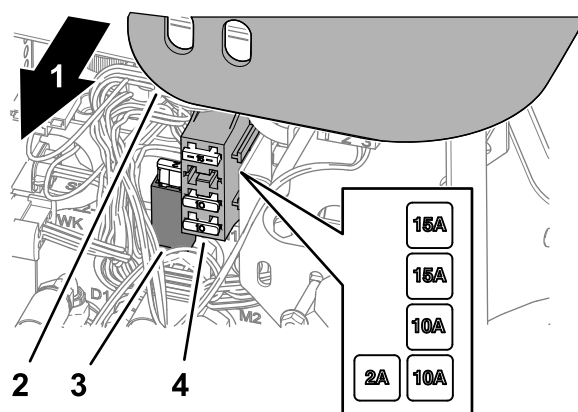

Figure 73
2. Lift the cover from the control arm (Figure 73).
3. Locate the open fuse in the fuse holder or fuse block (Figure 73).
5. Assemble the cover onto the control arm (Figure 73).